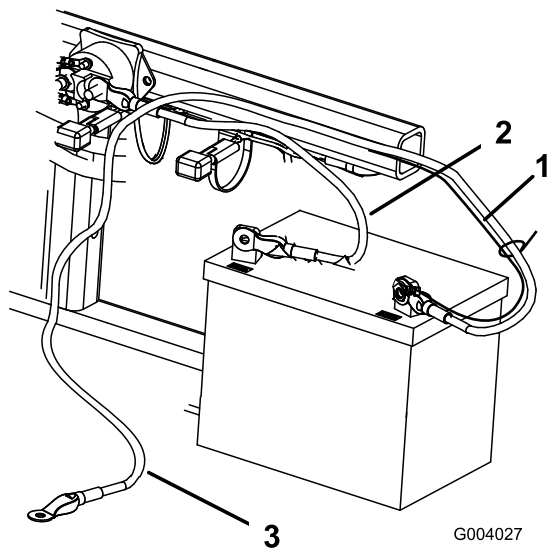

Figure 5
2. Secure the positive cable (red) to the positive (+) terminal with a 1/4 x 5/8 inch bolt and locknut (Figure 5).
- 3. Secure the small black wire and the negative cable (black) to the negative (-) terminal of the battery with a bolt (1/4 x 5/8 inch) and locknut (1/4 inch) (Figure 5).